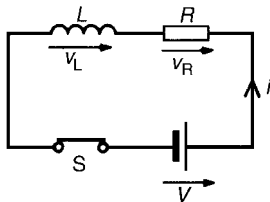

Figure 18.9
- (a) The circuit diagram for a series connected L - R circuit is shown in Fig. 18.9 When switch S is closed, then by Kirchhoff's voltage law: